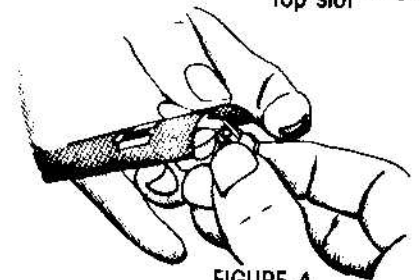

FIGURE 4
Insert Hinges(10) in Vane(11) slots with large end first (fig. 4). Press Vane end over small end of fin until fin is through slot. Note: Be careful not to damage slot or Vane.